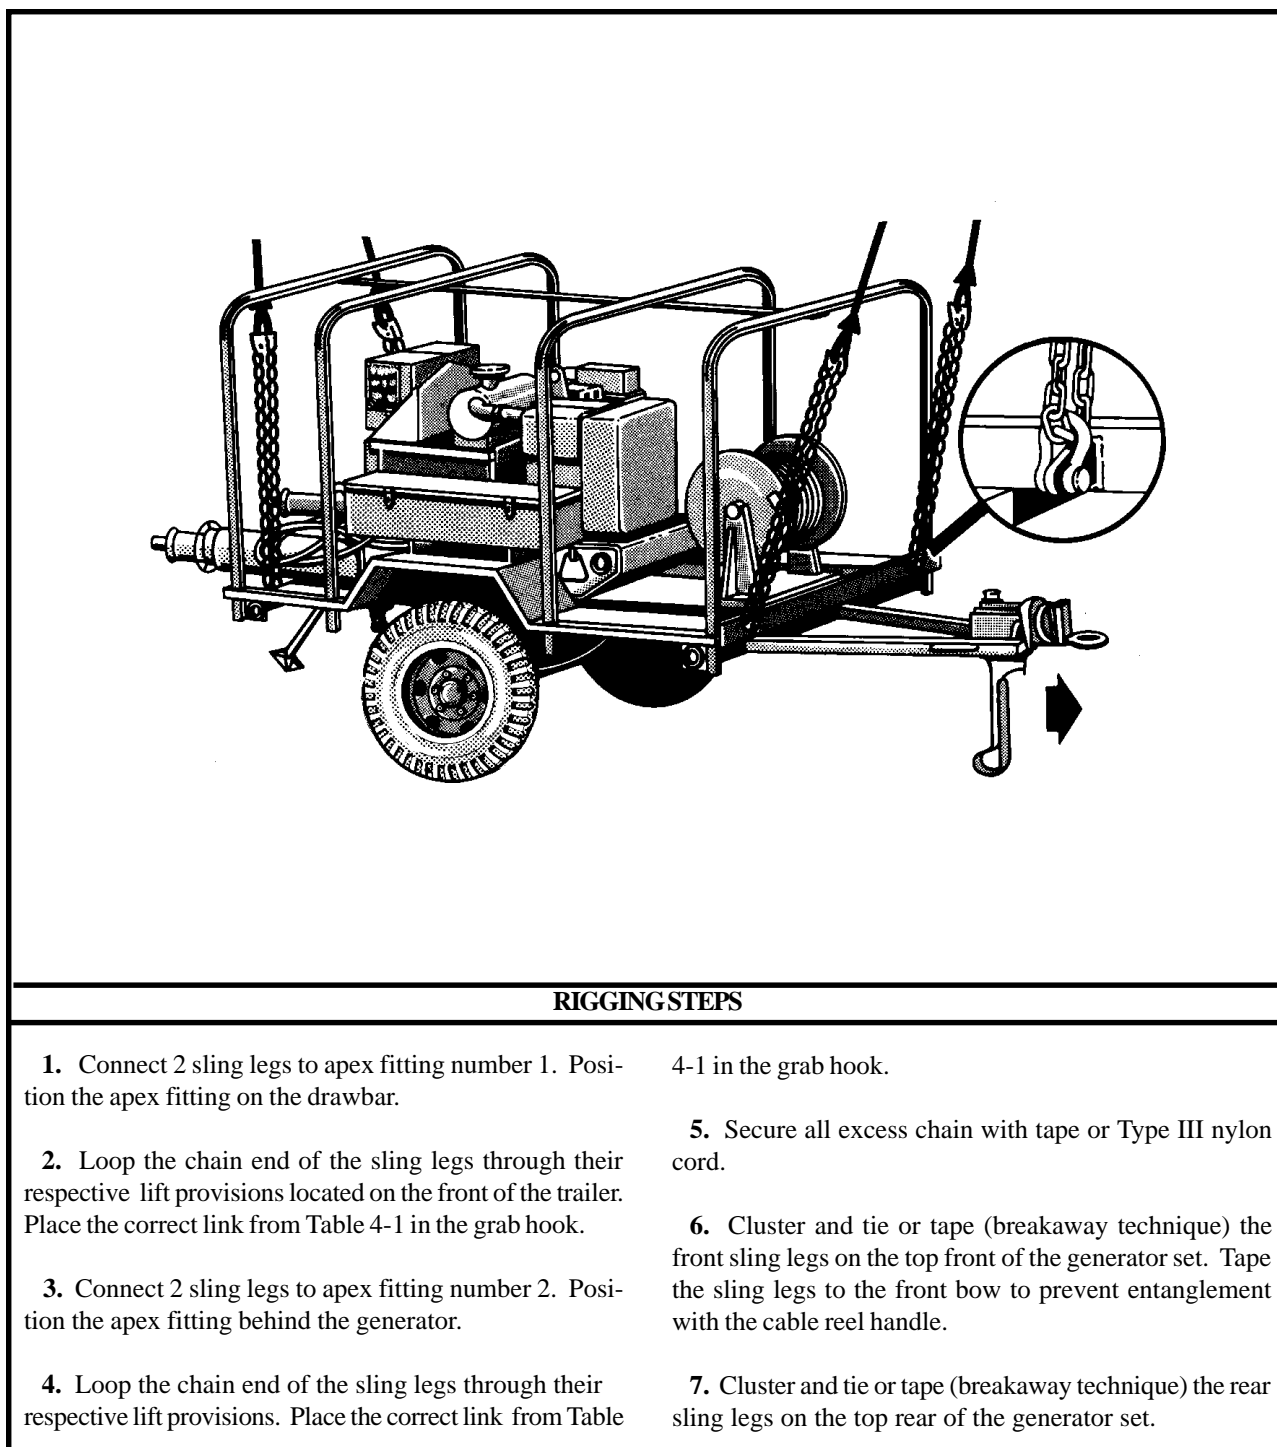

Figure 4-1. M116A2 Trailer-Mounted Power Units, Generators, and Power Plants
(2) **Rigging.** Rig the load according to the steps in Figure 4-1.
(4) **Derigging.** Derigging is the reverse of the preparation and rigging procedures in steps d (1) and d (2).